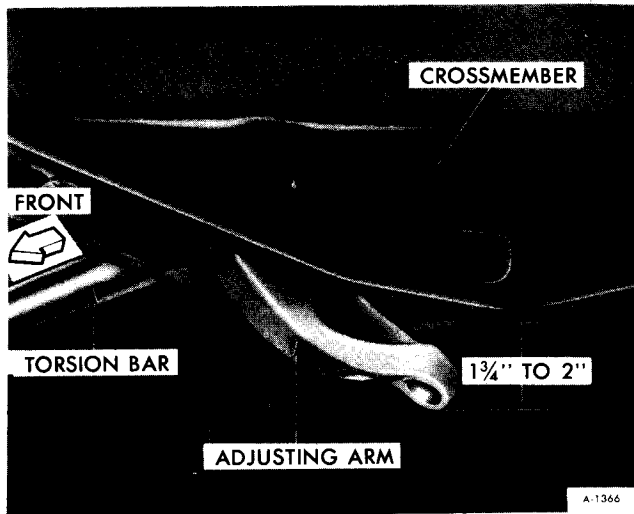

Figure 21—Positioning of Adjusting Arm
6. Insert adjusting arm into the crossmember and position approximately $1 \frac{3}{4}$ " below the centerline of the crossmember (see figure 21). Slide torsion bar rearward until it is flush with the rear face of the adjusting arm.
5. Insert torsion bar adjusting arm into crossmember. Position so the arm will engage the torsion bar and the end of the arm will be approximately 1 3/4" below the centerline of the crossmember. (Refer to figure 21.) Tap crossmember forward enough to engage bar into arm.